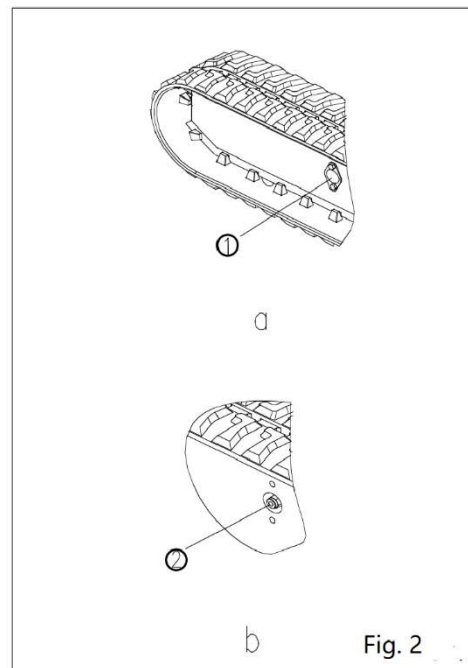

Fig. 2
- 5) Remove the cover ① (a in Fig. 2) from each track frame to expose the oiling nozzle of the tensioning device (② in Fig. 2).
- 6) To loosen the tracks, loosen the joint ② (Fig. 2) to allow the grease to flow out until the correct tension is obtained and then retighten it.
- 7) To tension the track, connect the grease gun connector (supplied as a tool) to the connector ② (Fig. 2). Then use the grease gun to add oil until the correct tension is obtained.